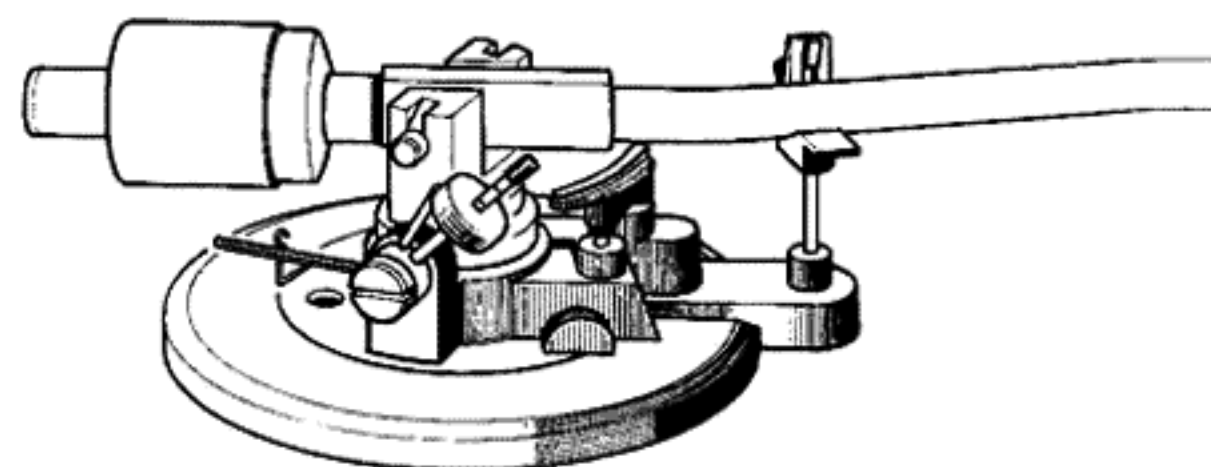

Fig. 10
2. Confirm that the anti-skating rod is hooked on the spring (Fig. 10) and the cueing lever is ∇ (down).